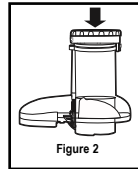

Figure 2
3. Place the stainless steel filter on top of the filter basket pushing down and turning it until it fits into the grooves of the motor shaft (Figure 2).
7. Press and hold down “” the food pusher while pressing the button (Figure 2). Auto-clean feature will automatically shut off after 30 seconds.
2. Remove the jar and the pulp collector container by tilting them slightly (Figure 2).
3. Insert axel into the bottom of the strainer and turn clockwise to lock in place (Figure 2).
2. Remove jar (Figure 2).
4. Turn it clockwise to close it. Make sure that the blade assembly is tightly closed in place before using the cup (Figure 2).